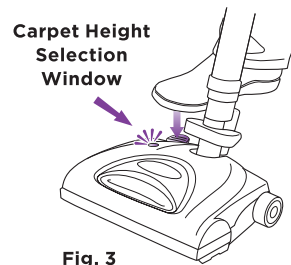

Fig. 3
- 2 Step on the pedal to change the carpet height selection. The color in the carpet height selection window indicates which height you have chosen. (Fig. 3)